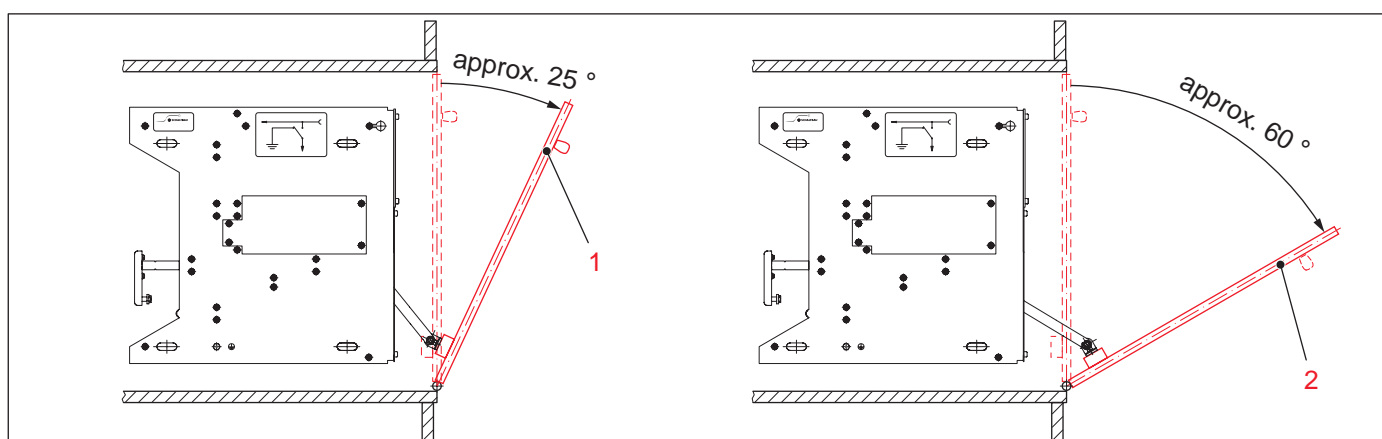
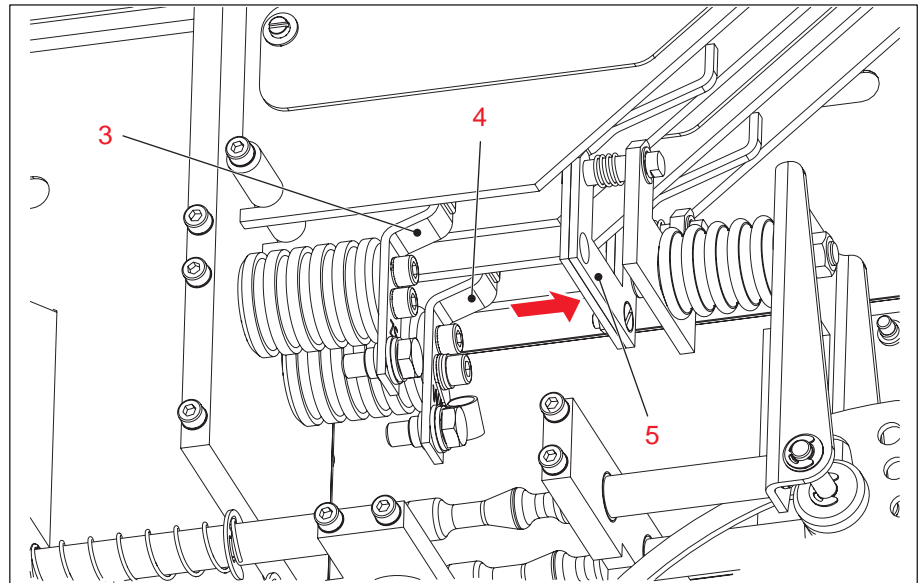

Figure 7: 25° and 60° opening angle of the lid of the switch gear cabinet for functional check
Figure 8: Disconnecting of the main contacts at an opening angle of the lid of approx. 25°
1. Slowly open the lid or the door respectively of the switch gear cabinet until an opening angle of approx. 25° has been reached (1):
- The main contacts ZS (3) and WA (4) must still be closed and the contact spring must be pre-stressed (see **Figure 7** and **Figure 8**).
- After the resistance has been overcome, the switching mechanism must trigger and the main contact bridge (5) leap to the front (see **Figure 8**).
- The main contacts ZS (3) and WA (4) are now open, the earthing contact has not yet been closed (**Figure 8**).
3. After that, slowly open the lid or the door respectively further, until an opening angle of approx. 60° has been reached (2) (**Figure 7**).